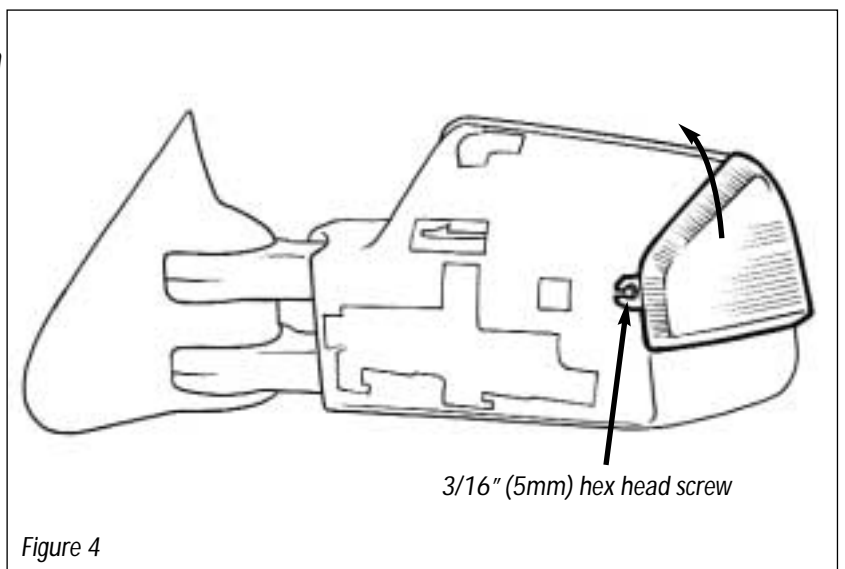

Figure 4
4. Remove the 3/16" (5mm) hex head screw and pull the light module up and forward to free it from the main body of the mirror assembly. (see Figure 4 opposite)